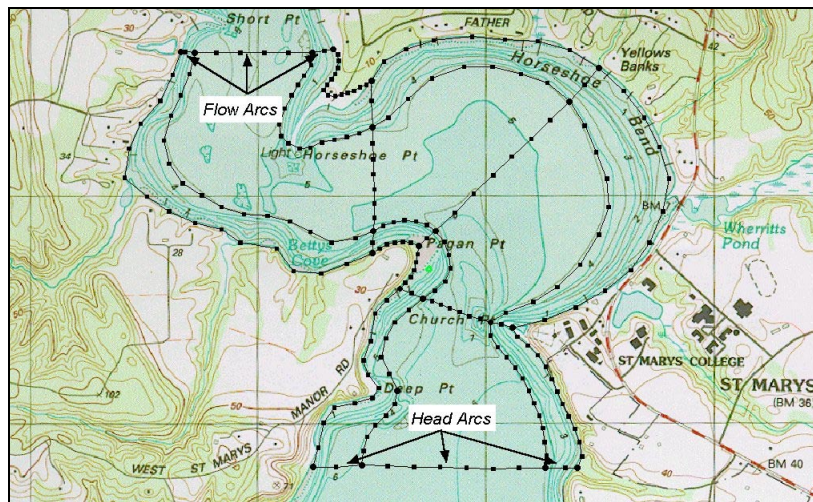

Figure 2-11 The arc groups to create.
2. Holding the *SHIFT* key, select the three arcs that make up the flow cross-section, labeled as *Flow Arcs* in Figure 2-11.
4. Now, select the three arcs that make up the head cross-section, labeled as *Head Arcs* in Figure 2-11.